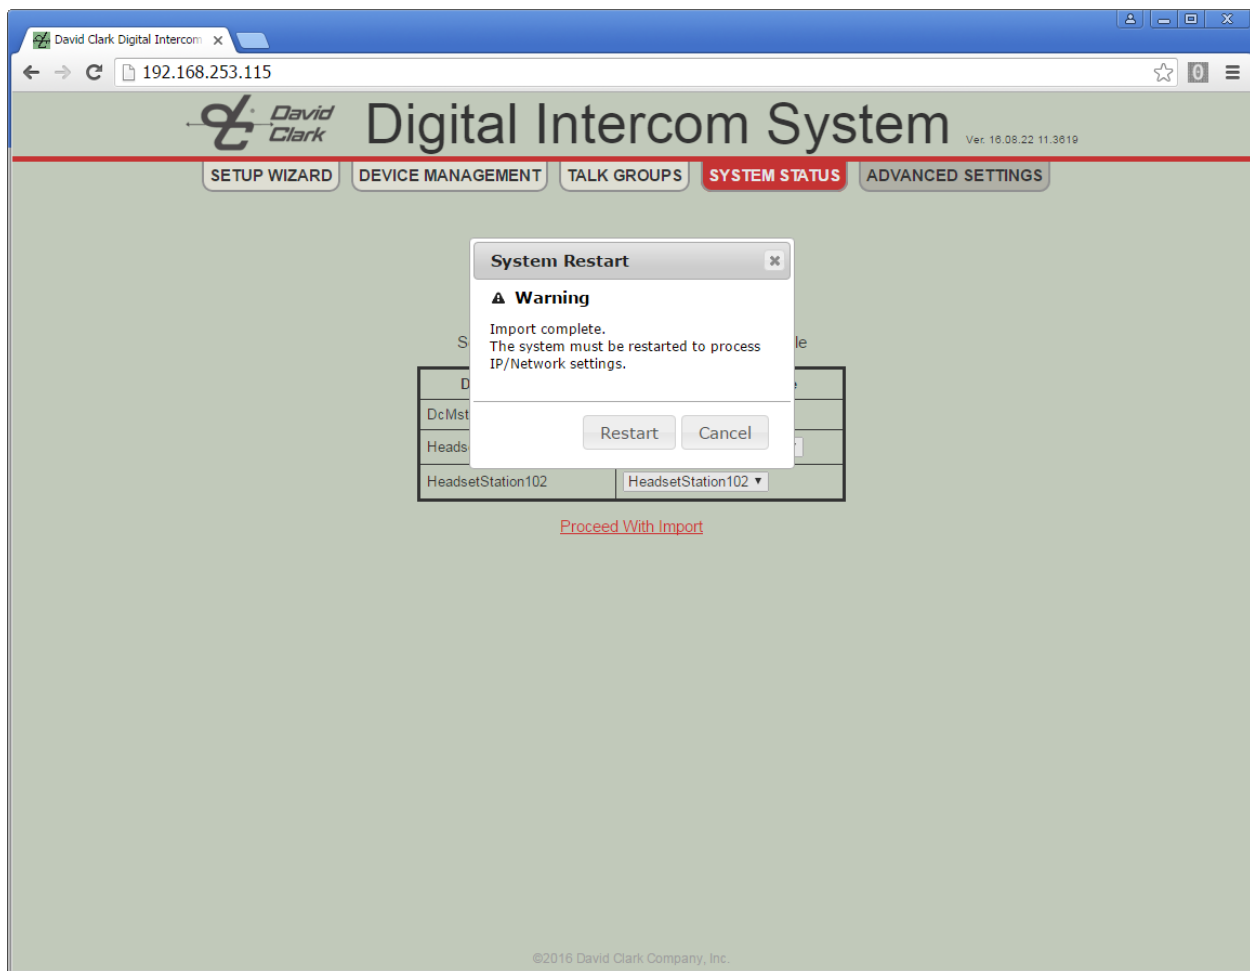

Figure 8.14: Restart After Import
- When complete, a dialog will ask to restart the system. The system should be restarted to complete all changes. See **Figure 8.14**.